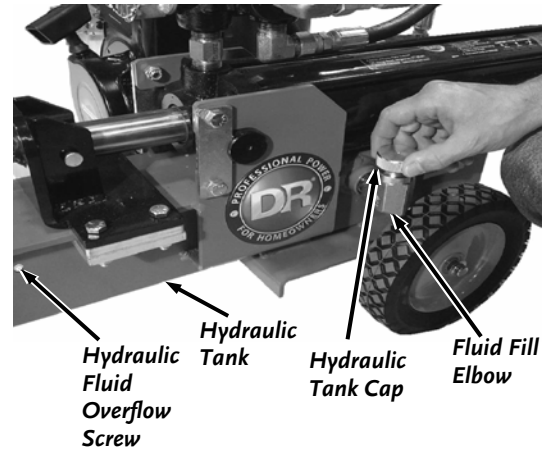

Figure 36
- a. Remove the Hydraulic Tank Cap and the Hydraulic Fluid Overflow Screw from the Hydraulic Tank (**Figure 36**).